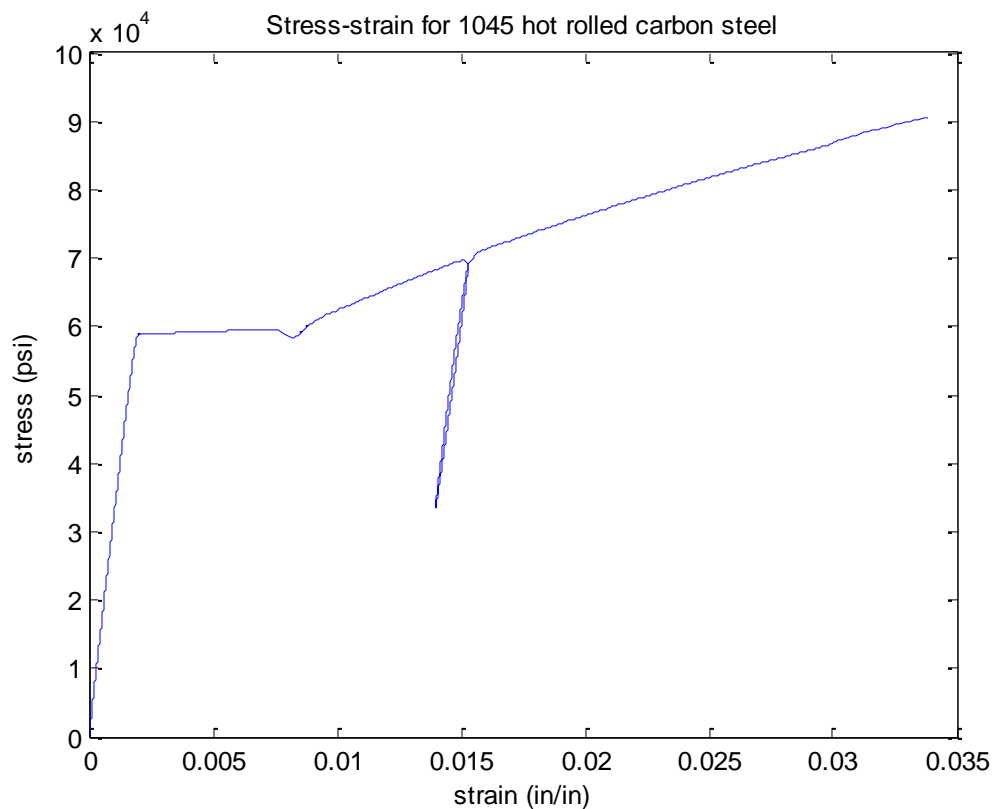

Figure 2. Plot of Strain v. Stress for 1045 Hot Rolled Steel
- Plot stress versus strain with strain on the x-axis and stress on the y-axis. Be sure to label the axes and title the plot as shown in Figure 2 below.